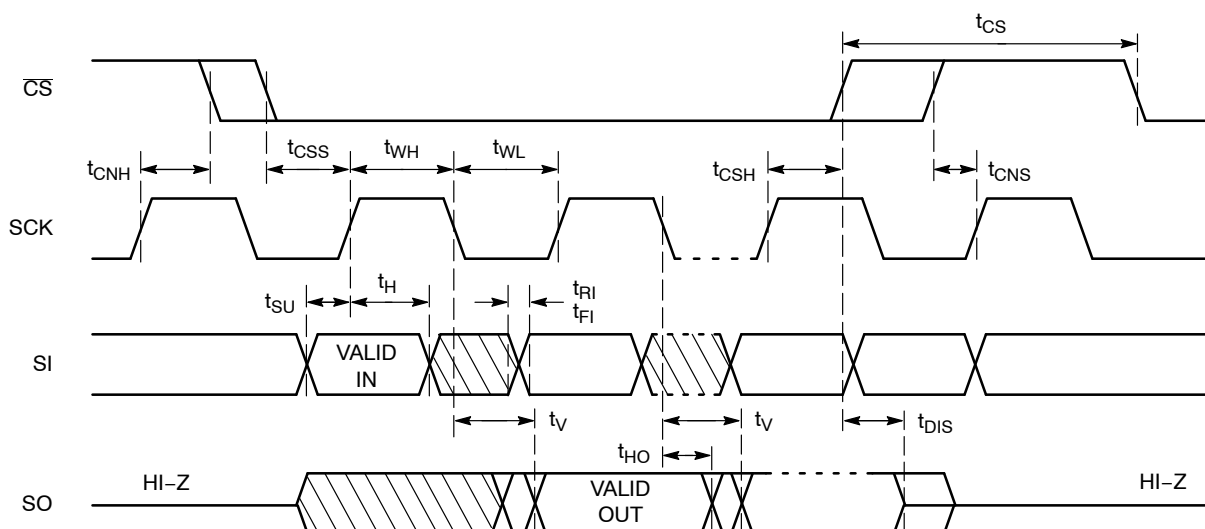

Figure 2. Synchronous Data Timing
9. **All Chip Select (CS) timing parameters are defined relative to the positive clock edge (Figure 2). t_{CSSH} timing specification is valid for die revision D and higher. The die revision D is identified by letter "D" or a dedicated marking code on top of the package. For previous product revision (Rev.C) the t_{CSSH} is defined relative to the negative clock edge.**
After a high to low transition on the \overline{CS} input pin, the CAT25128 will accept any one of the six instruction op-codes listed in Table 10 and will ignore all other possible 8-bit combinations. The communication protocol follows the timing from Figure 2.